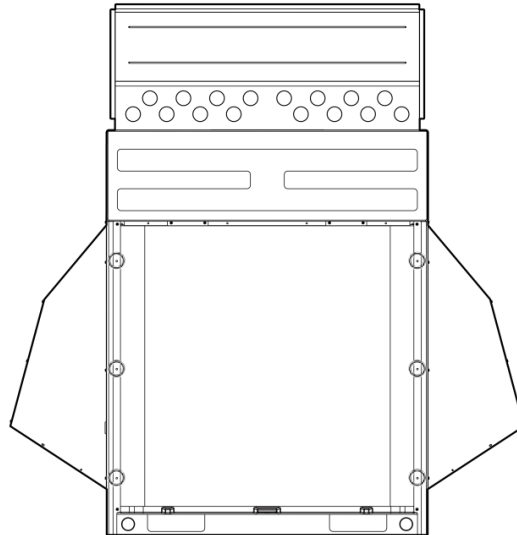
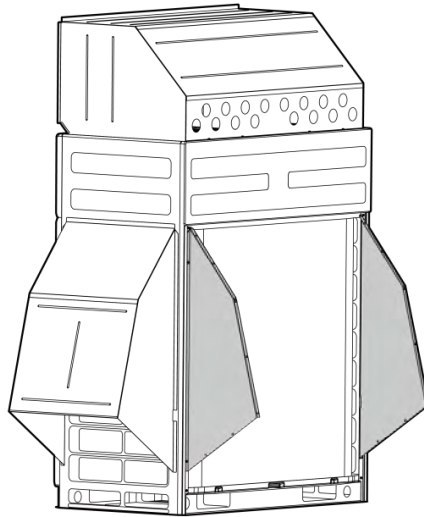

Fig. 3.34
Fig. 3.35
(2) As Fig 3.34 is shown, the screw hole is empty after dismantling the grille, fix the side plate with 6 screws. During installation, the bottom edge of left side plate and right side plate shall be folded outwards. Please refer to Fig 3.35 for the completion status.